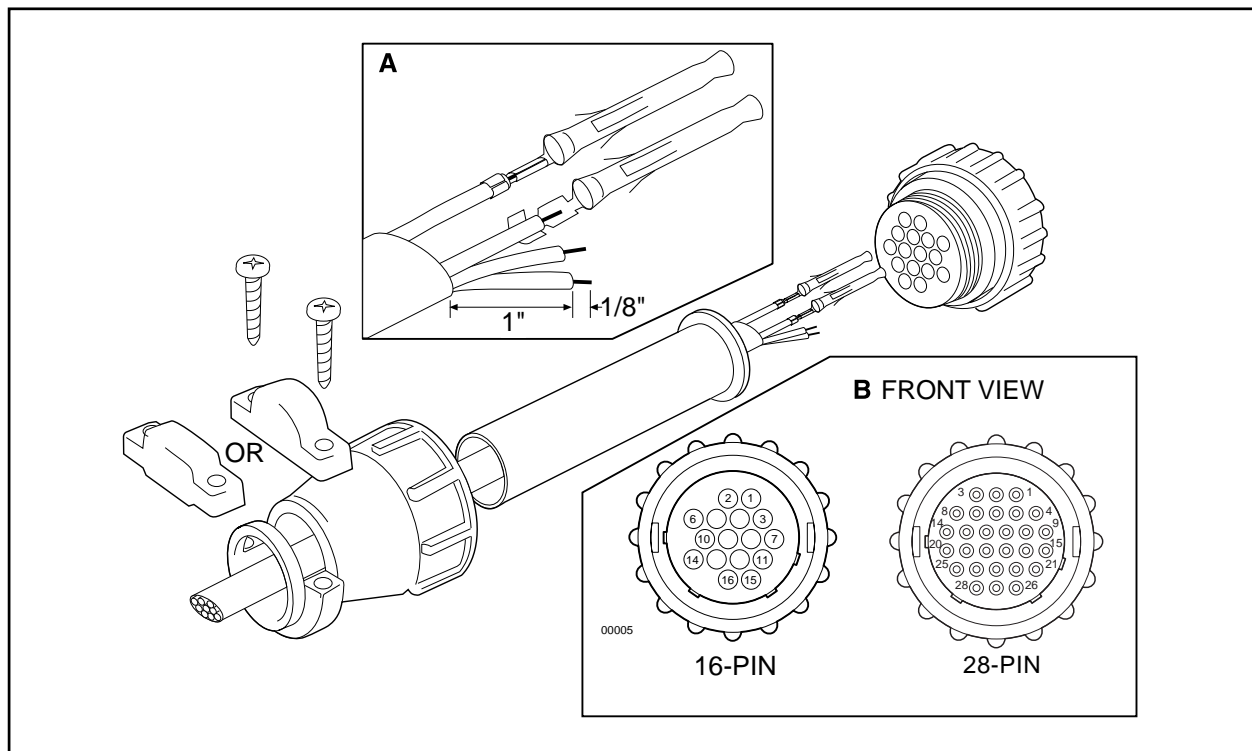

Figure 2. Connector Assembly
To assemble the mating connector, refer to Figure 2 and perform the following steps.
2. Refer to Detail A in Figure 2. Prepare the wires from the conductor cable as follows:
3. Slide the connector pins into the appropriate holes in the connector body until they snap into place. Refer to detail B in Figure 2 and to Figures 3-6 for correct pin arrangement, depending on model and options.